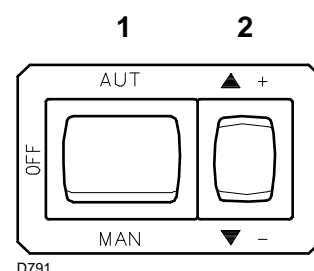
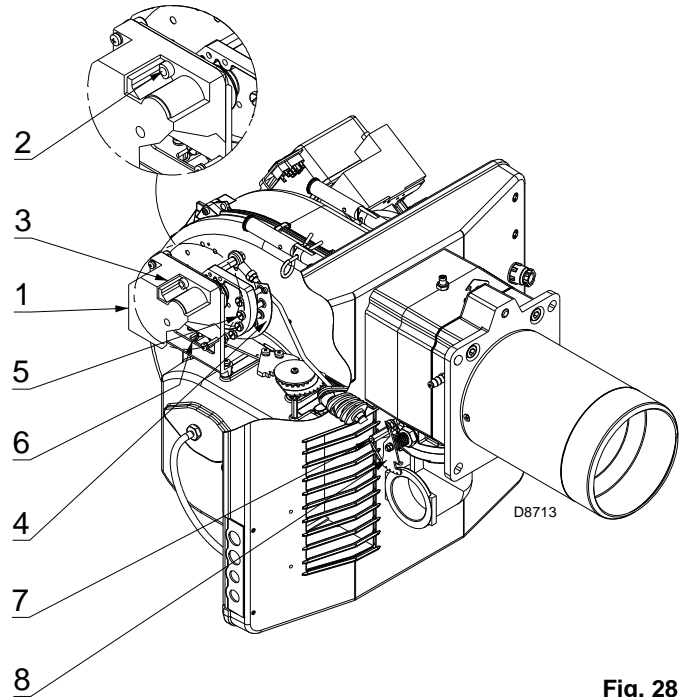
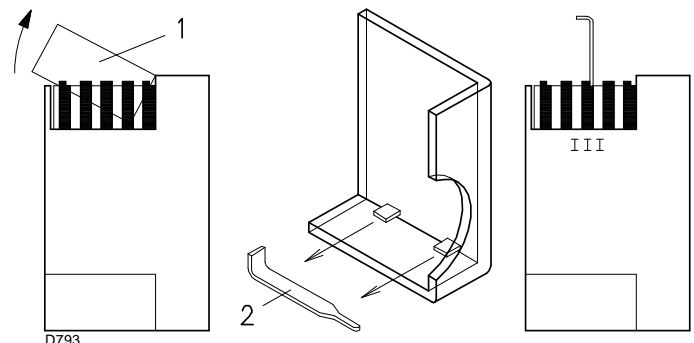

Fig. 27
Fig. 28
Fig. 29
Close the thermostats/pressure switches and turn the switch of Fig. 27 to position "MAN".
Now press the button 2)(Fig. 27) "output increase", and keep it pressed until the servomotor has opened the air damper and the gas butterfly valve at 90°.
Progressively adjust the end profile of cam 4)(Fig. 28) by turning the cam adjustment screws as they are visible through the access opening 6 (Fig. 28).
Press the button 2 (Fig. 27) "output reduction", and keep it pressed until the servomotor has closed the air damper and the gas butterfly valve at 15° (adjustment made in the factory).
- If it is necessary to reduce it, reduce slightly the angle of cam III (Fig. 29) with small, regular movements, i.e. bring it from an angle of 15° to 13° - 11°....
- If it is necessary to increase it, press slightly the button "output increase" 2)(Fig. 27) (open by 10-15° the gas butterfly valve), increase the cam III angle (Fig. 29) with small, regular movements, i.e. bring it from an angle of 15° a 17° - 19°....
If it is necessary to adjust cam III, remove the cover 1)(Fig. 29), inserted with a trigger catch, as indicated in Fig. 29, extract the special key 2)(Fig. 29) from inside, and insert it in the notch of cam III.
Progressively adjust the end profile of cam 4)(Fig. 28) by turning the cam adjustment screws as they are visible through the access opening 6)(Fig. 28).
Press the key 2)(Fig. 27) "output increase" a little so that a new screw 5)(Fig. 28) appears in the opening 6)(Fig. 28), adjust it until optimal combustion is obtained. Proceed in the same way with the other screws.
Switch the burner off with switch 1)(Fig. 27), OFF position. Release the adjustable profile cam by setting the servomotor slot 2)(Fig. 28) in a vertical position and check several times that by rotating the cam forwards and backwards by hand, the move-